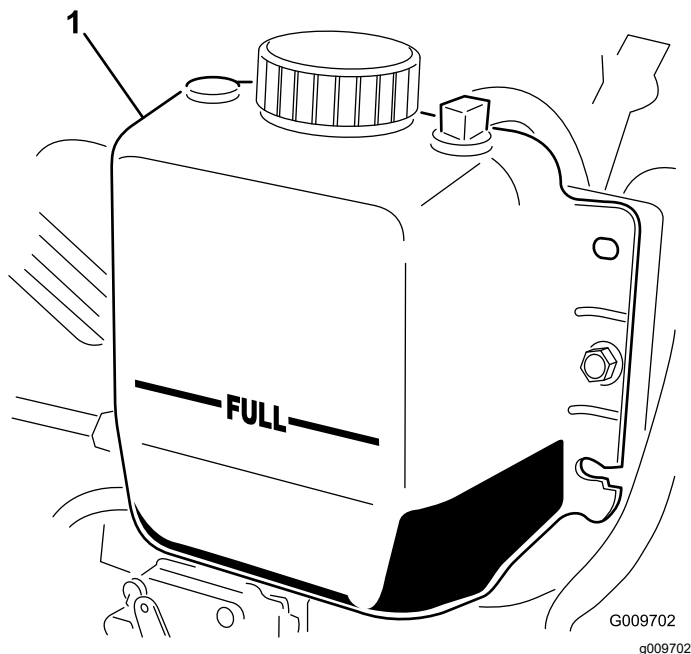

Figure 37
**Note:** The radiator should be filled to the top of the filler neck and the expansion tank filled to the Full mark (Figure 37).